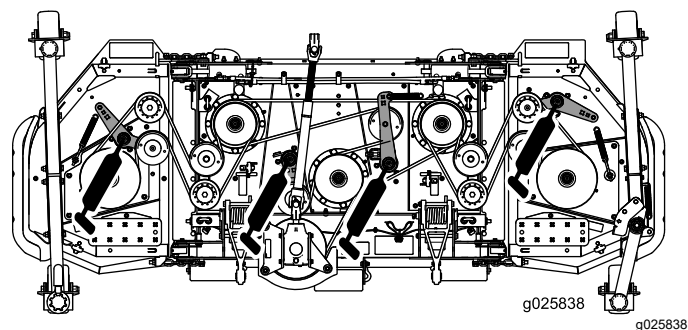

Figure 17
- Idler arm pivots (4) (Figure 17)